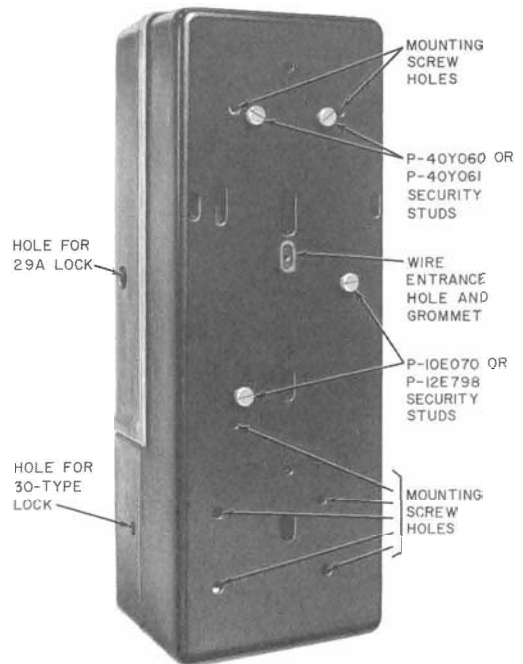

Fig. 3—Location of Mounting Screw Holes and Security Studs in 1A-Type
- (1) Place a spirit level vertically against the mounting surface on which the set is to be installed.
- (2) When a vertical reading is obtained, the end of the level opposite the point of contact shall be no farther from the mounting surface than shown in Table A.
- (3) The left to right mounting axis shall also be within 1-1/2 degrees of true vertical.
- (b) Refer to Fig. 3 and 4 and Tables B and C for security stud requirements.